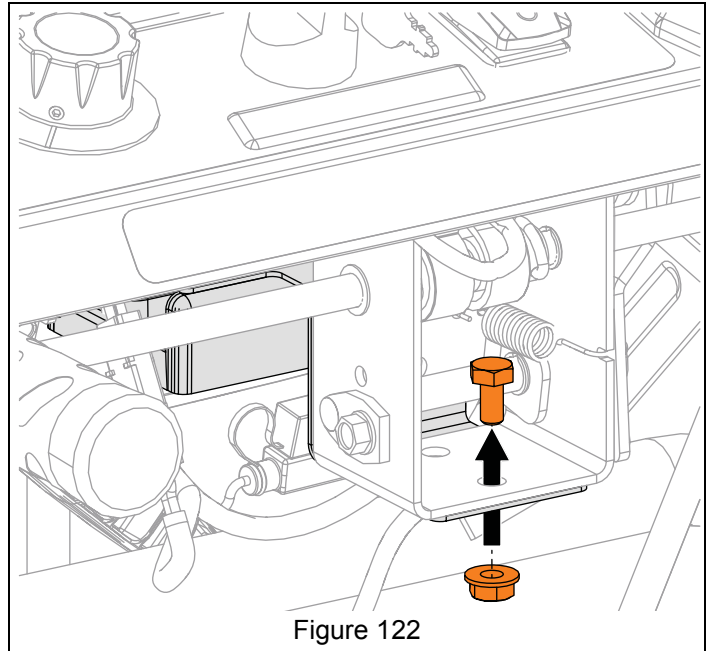

Figure 122
4. Remove hardware retaining ECU and bracket and remove bracket. See Figure 122.